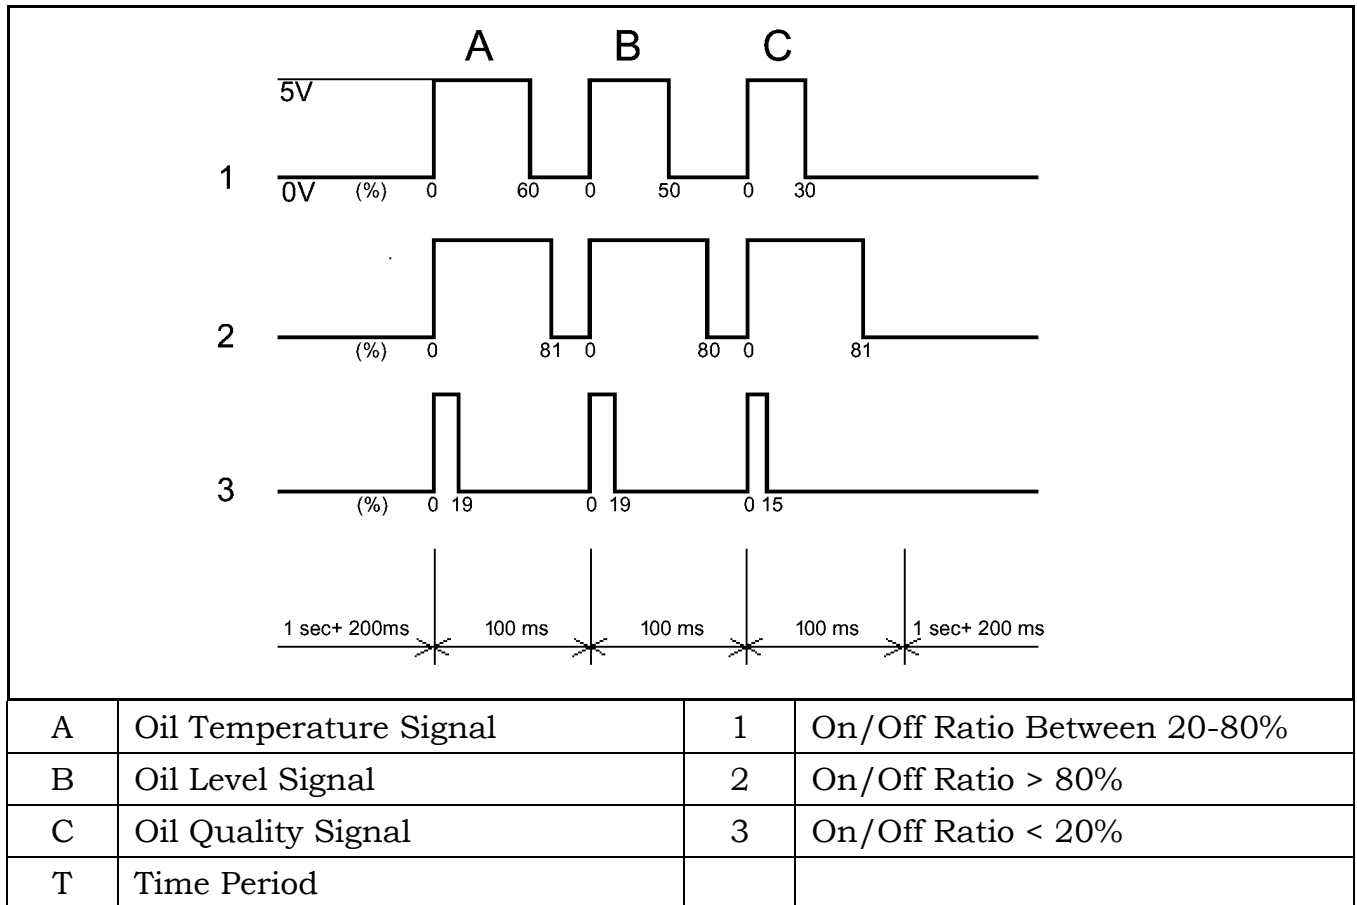

Figure 87 Engine Oil Sensor Information Block
The engine oil sensor constantly supplies data to the ECM in the form of information blocks (Figure 87). Each information block consists of three successive square wave signals of 100 ms each, followed by a synchronization pause of 1 second + 200 ms. A measured variable is assigned to each square-wave signal (A, B, C). The values are determined by the ON/OFF ratio, which ranges from 19 to 81%.
Refer to the examples shown in Figure 87. The first information block (1) contains square wave signals which fall between the 20-80% window. The values for oil temperature (60%), oil level (50%) and oil quality (30%) are in order.